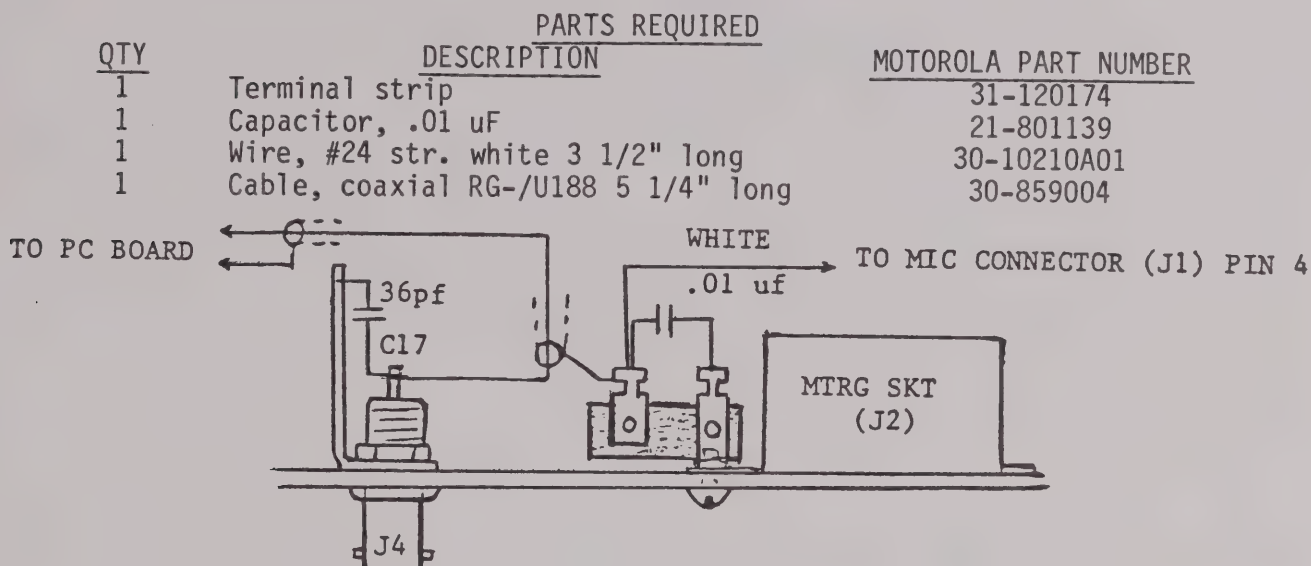

Figure 3. Meter Panel Detail
- 4.2.1 Obtain the following parts and refer to Figure 3.